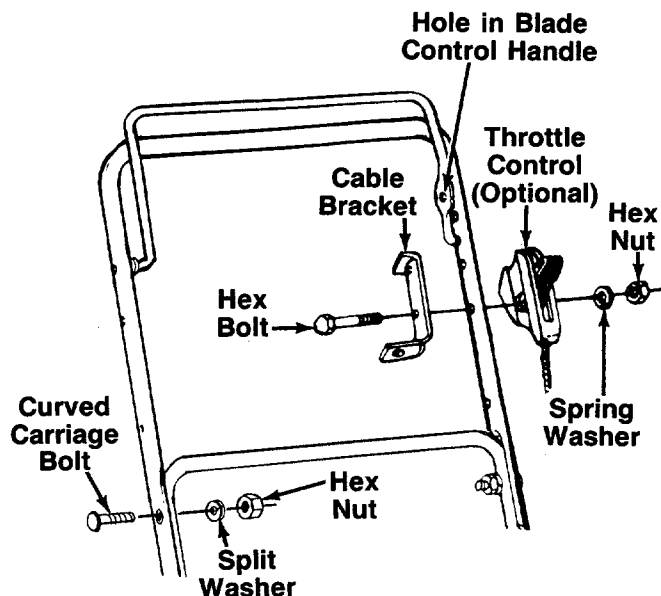

FIGURE 2.
2. Secure the upper handle to the lower handle using the curved head bolts, split washers and hex nuts as shown in figure 2.
If your mower is equipped with a remote throttle control, it is already attached to the engine. Attach the cable bracket and throttle control to the **left** side of upper handle as follows. See figure 2.